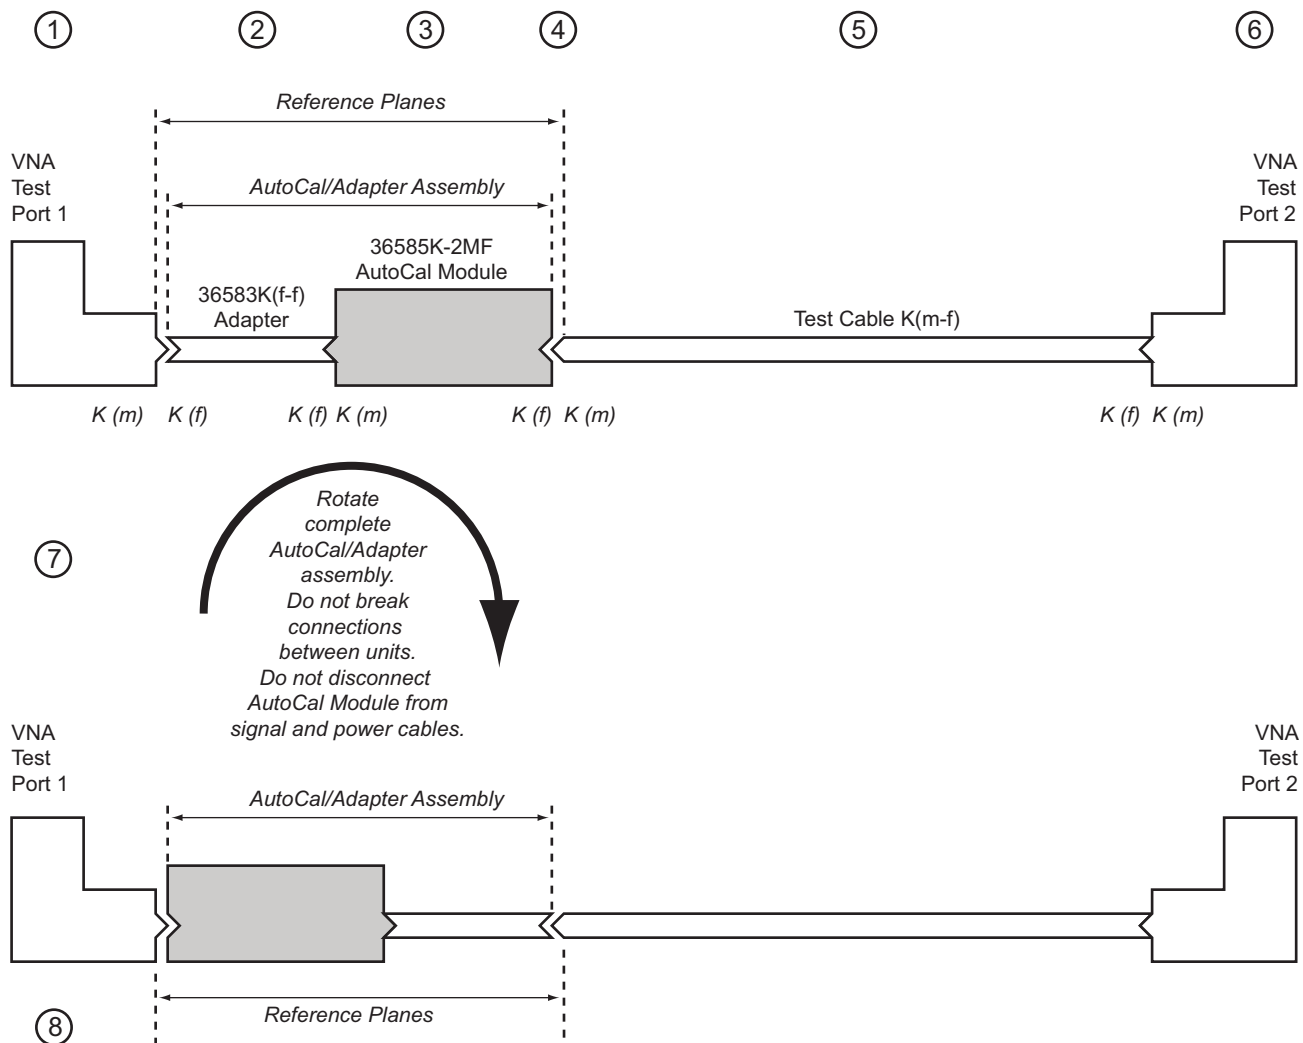

Figure 2-16. Precision MF AutoCal 36585K-2MF, Adapter Removal, Internal Thru
14. As shown above in Figure 2-16, disconnect the **Adapter** from **Test Port 1** and the **AutoCal Module** from the **Test Cable** on Test Port 2.